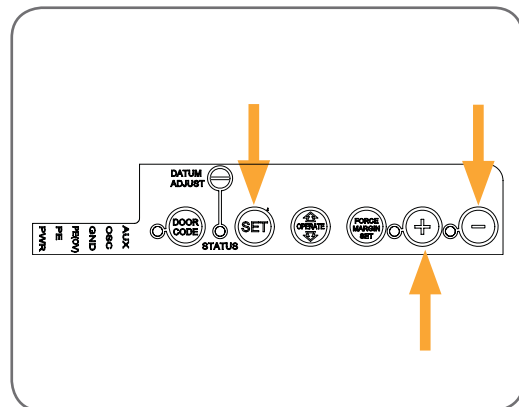

fig 19
- Press and hold MINUS(-) until the door reaches the desired close limit position. Single presses will inch the door (**Fig 19**).
- Press LIMIT SET to store the close position into memory (**Fig. 19**).